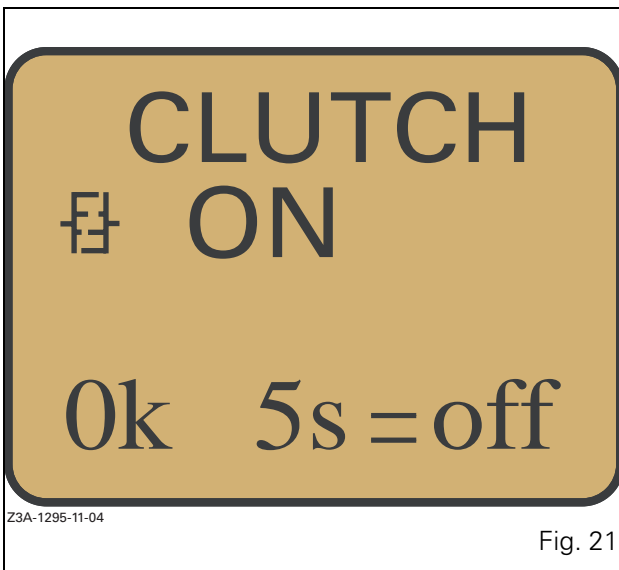
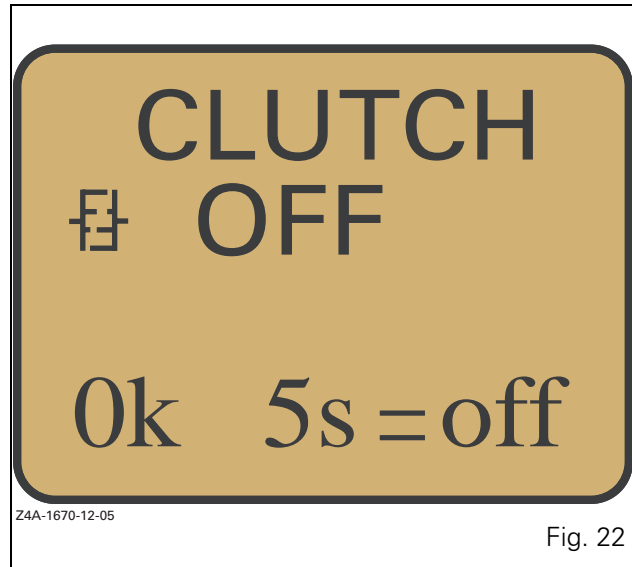

Fig. 21
Fig. 22
**NOTE:** To activate (Fig. 21) or deactivate (Fig. 22) the coupler function, move the Power Shuttle lever to neutral, fully press down the clutch pedal and press the OK button for 5 seconds.